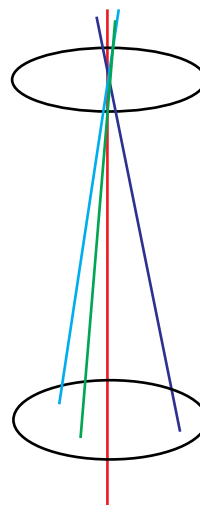

Figure 6a. The three new axes have been moved only on one end and they are twisted axes, meaning that they intersect the center axis (red) at some point.
- An axis is considered twisted when each end is moved in a different direction and distance from the center axis so that the new axis intersects the center axis or another axis at some point. The spindle can be repositioned on one or both ends (*Figures 6a, 6b*). The results look twisted.